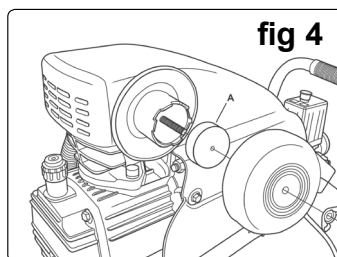

fig 4
- b) Remove the filter element (fig.4) and clean by blowing through with an airline at low pressure, from the clean side. Alternatively, wash in soapy water, rinse and dry. Do not operate the compressor without the filter as foreign bodies or dust could seriously damage the pump.